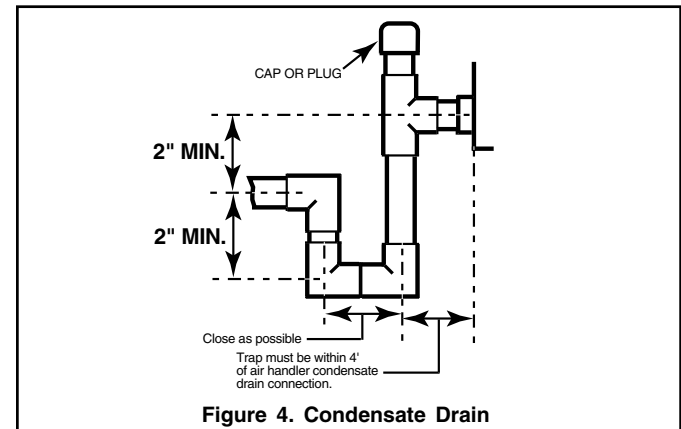

Figure 4. Condensate Drain
1. The primary drain line must be trapped with a minimum of 2" water seal as shown in Figure 4. **Do not use preformed 3/4" PVC running traps.**
3. It is recommended that a clean-out tee or cross be installed in the primary drain line for future maintenance (See Figure 4).